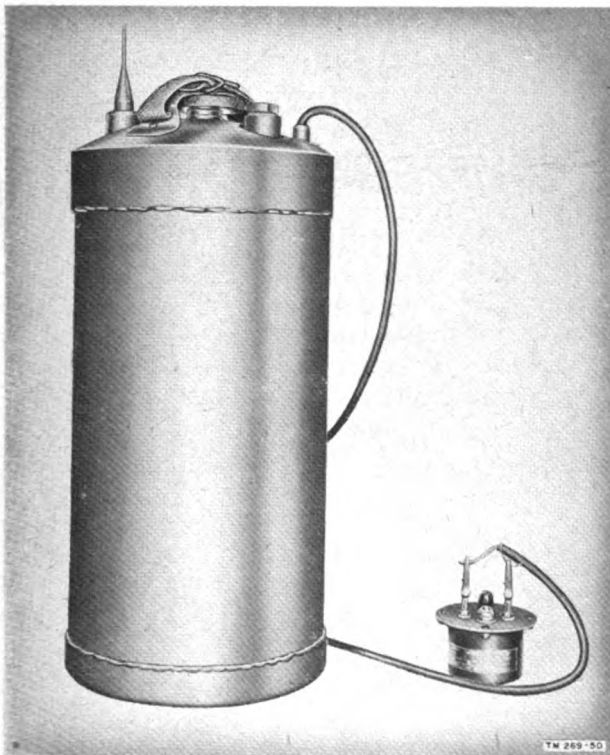

Figure 52. Receiver, connected to test set.
b. Connect Test Set TS-261/TRR-2 across the two ends of the firing cord (fig. 52).